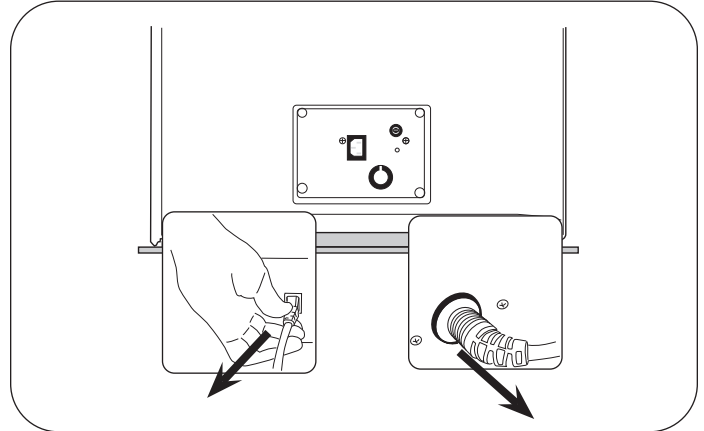

Figure 12. Unplug Foot Control and Power Cords
14. Unplug foot control and power cord and place into front storage drawer (Figure 12).